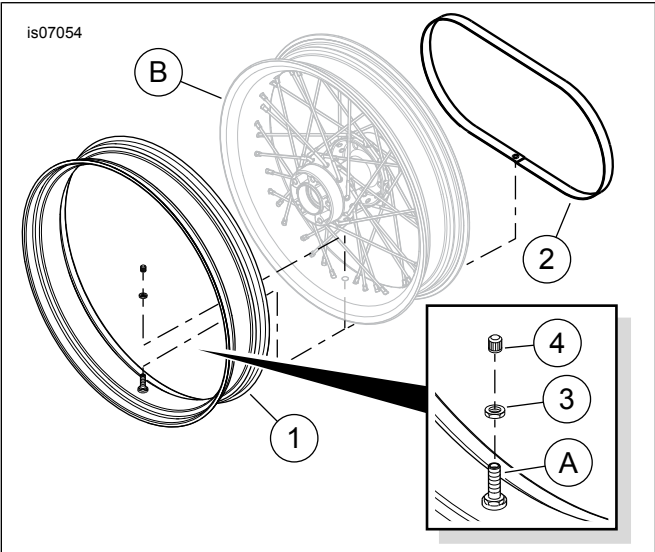

Figure 3. Service Parts, Rim Seal Kits
See Figure 3 and Table 2.
- See Figure 3. Install the **new** rim seal (1), aligning the valve stem (A) with the hole in the wheel (B) rim and rim strip (2).
- Insert the valve stem through the rim hole and secure with the nut (3). Tighten to 1.4–1.7 N·m (12–15 **in-lbs**).